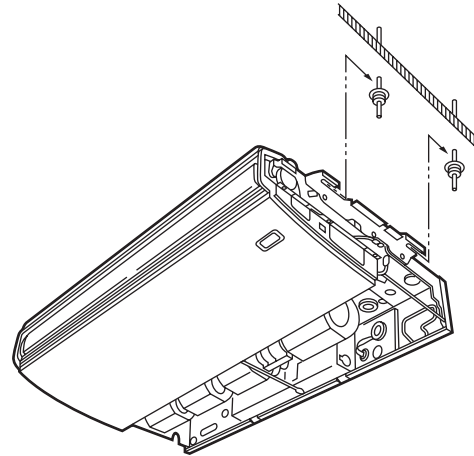

Fig. 1-93
- Lift the indoor unit with a lifting machine to the ceiling surface, and place it on the washers through the notches, to fix it in place. (Fig. 1-93)